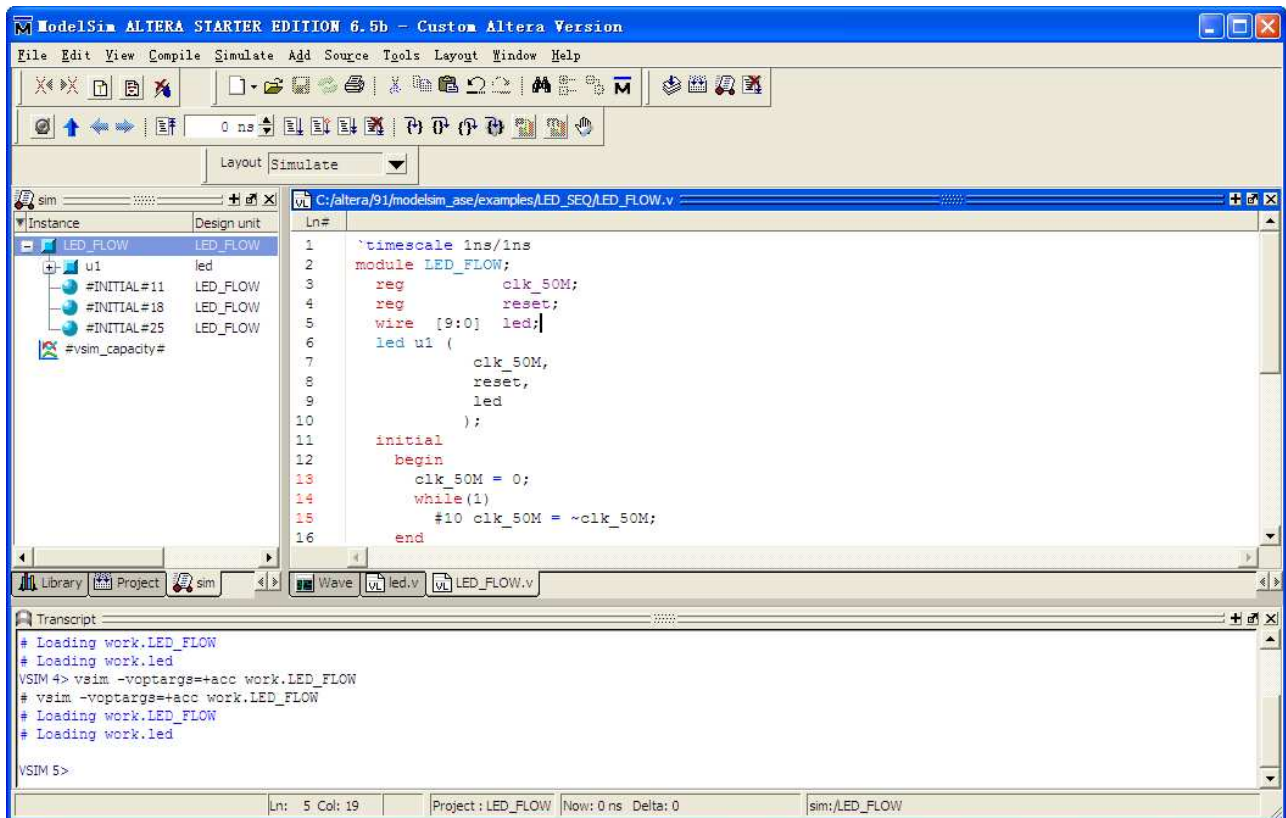

Figure 3.2 Simulation window
3. Click **Simulation** icon to reach the window shown in Figure 3.2.